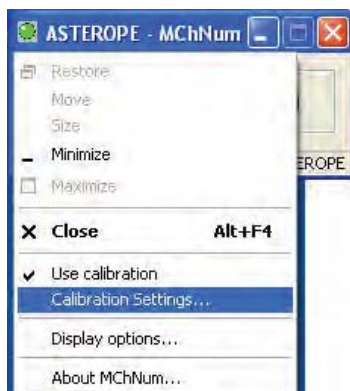

Figure 5-1 MCHNum context menu
4. Click the Green LED at the top left corner of the MCHNum Browser window or right click the top pane to display the MCHNum context menu (Figure 5-1).